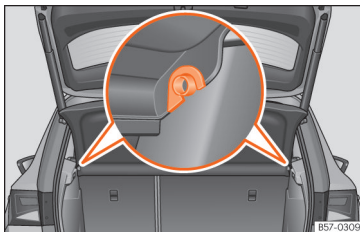

Fig. 167 In the boot: removing and installing the shelf.
- Remove the rear shelf from the side supports >>> Fig. 167 by pulling it upwards and then take it out.
- Insert the cover horizontally so that the “recess” fits onto the axis of the supports >>> Fig. 167 and press down until it engages.